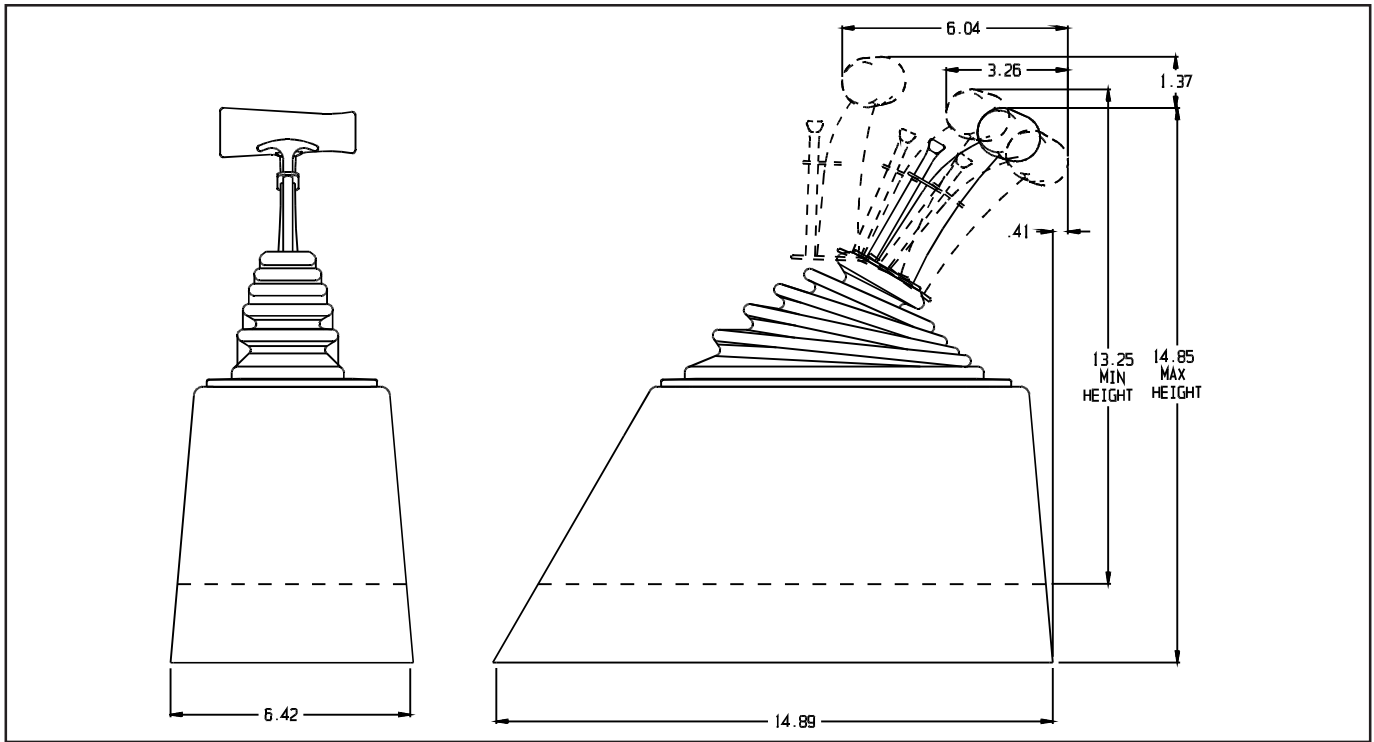

Figure 2
STEP 1. Locate the shifter on the floor of the truck where you want it to be located. The mounting brackets can mount the basic shifter assembly 1-1/2" to 3-5/8" above the floor. **Figure 2** gives the dimension of the shifter, so be sure that there is enough room where you will be mounting the shifter.
Pull the carpet away from the floorboard where the shifter mounting bracket is to be located. Place the shifter on the mounting bracket and slide the front and rear brackets up or down to get the desired height for the shifter. Tighten the four screws on the bracket. If the vehicle has a bench type seat, move the seat to the full forward position. With the stick shifted to the rearmost gate position. Locate the shifter for ease and convenience of operation (**See Figure 2**). Make sure the trigger and the T-handle clear the dash with the shifter in the Park position. Mark the position of four mounting holes for the bracket assembly on the floor.